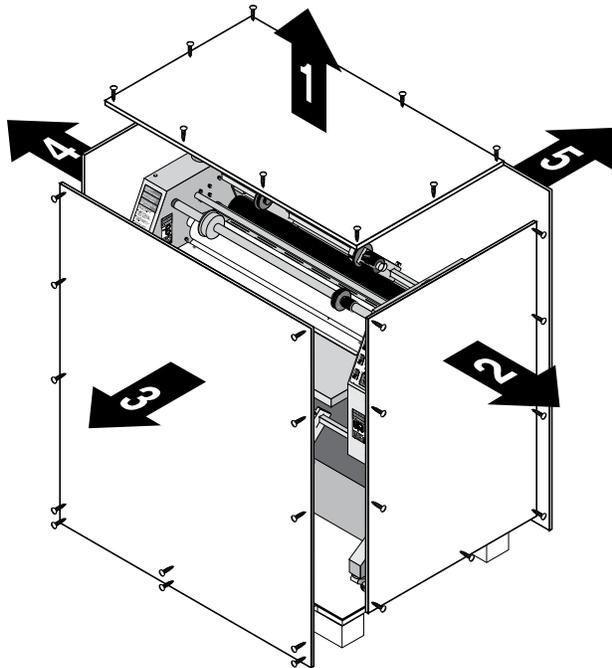

Figure 2-4: Removing the Crate
1. Remove the top of the crate and then the sides in the order shown in Figure 2-4.
**A second person must support the side labeled 5 in Figure 2-4. It can fall and damage the laminator.**